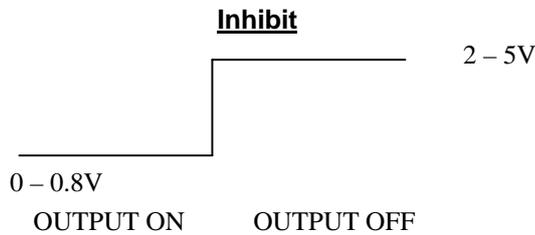

Figure 4.
- c. Inhibit control : see figure 4 for further details.